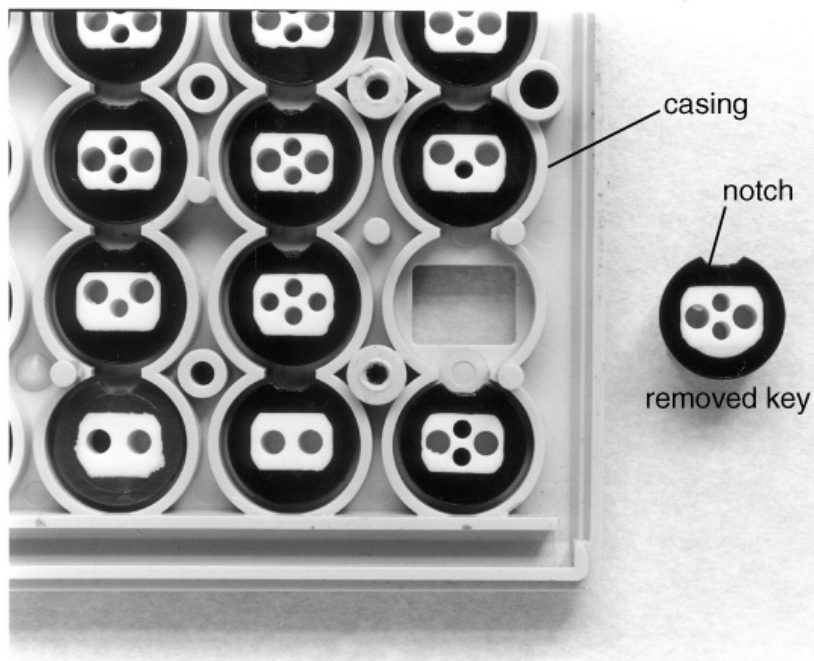

Fig. 17
- (c) Fig. 17 shows a key removed from the 1985 calculator keypad.